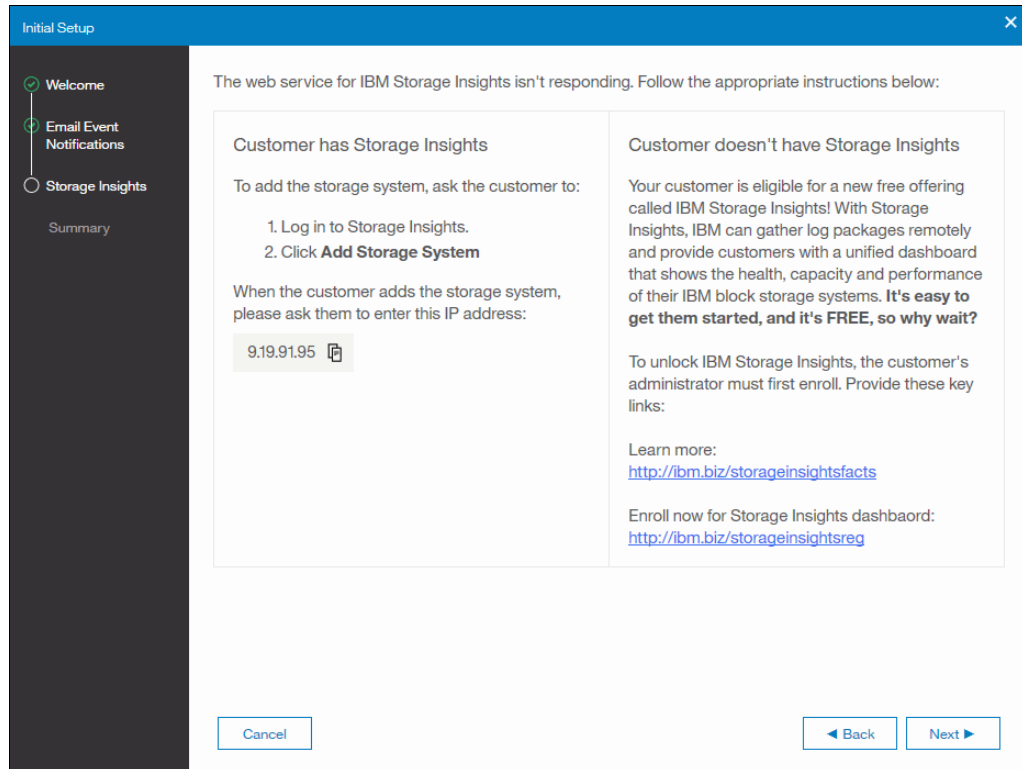

Figure 6-70 Storage Insights screen
24. The Storage Insights screen is displayed (Figure 6-70).